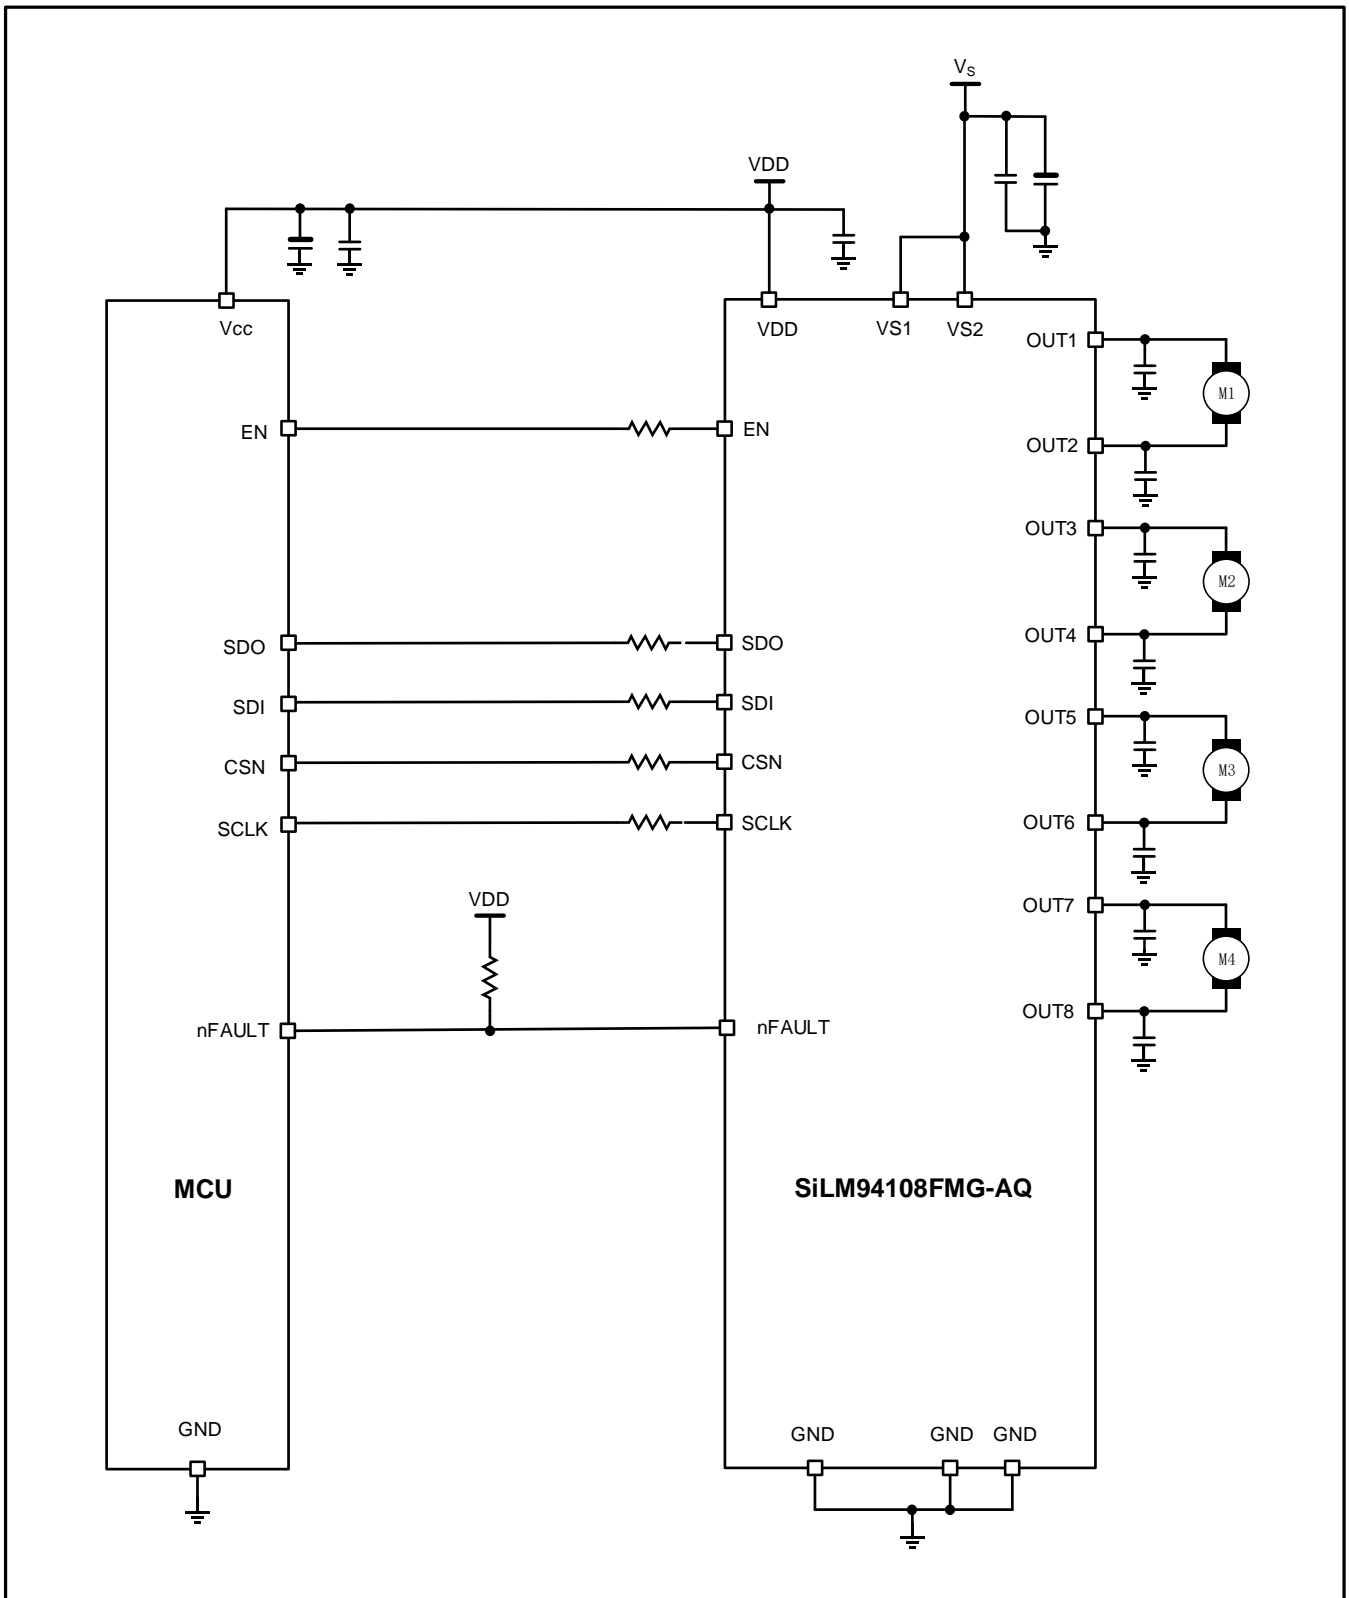

Figure 25. Application example for DC-motor loads(SiLM94108FMG-AQ)
- One 16-bit SPI command consists of two bytes (see Figure 25 and Figure 26), i.e.